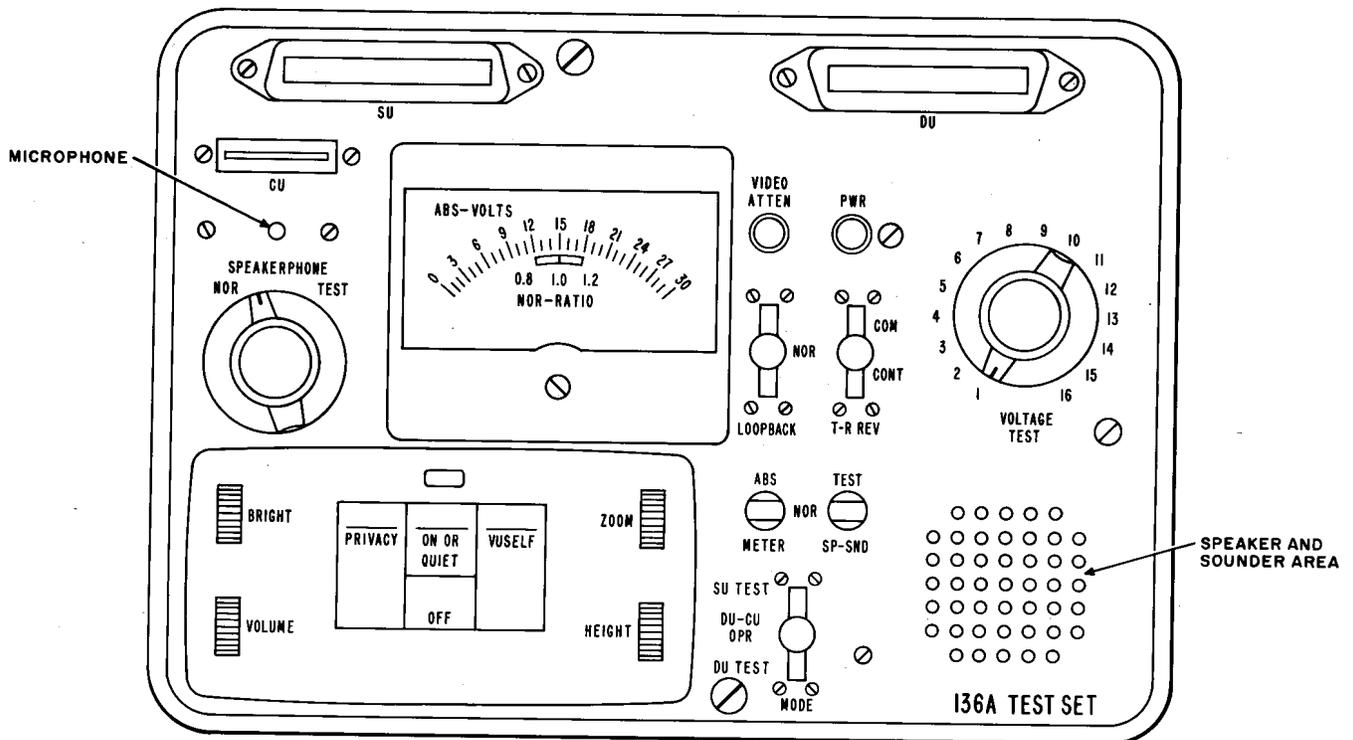
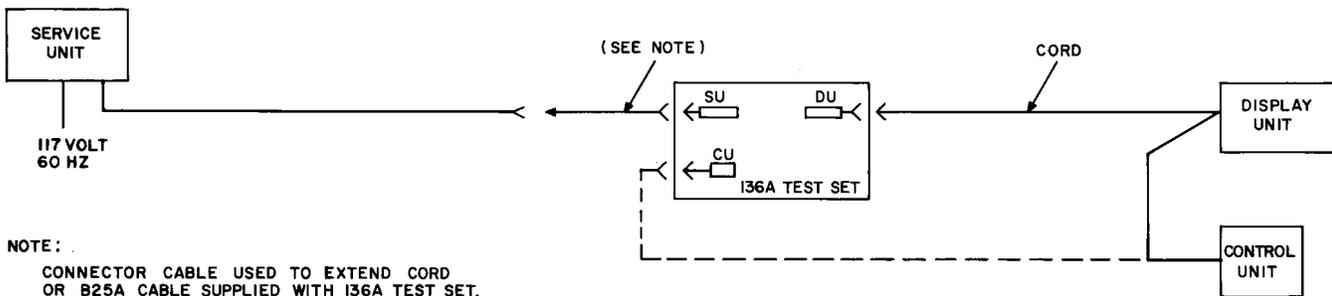

Fig. 1—136A Test Set
Fig. 3—Block Diagram of Test Set Connections
**1.03** The 136A test set (Fig. 1) provides for the following tests:
2.01 The following controls and indicators are provided on the 136A test set (Fig. 1)
**3.01** Connectors (DU and SU) on the test set (Fig. 1) permit placing the test set between the display unit, control unit, and service unit (Fig. 3). If a connector cable has been used to extend the interconnecting cord from the display unit to the service unit, open the connection and insert the test set. In installations where the display unit is plugged directly into the service unit, use the B25A cable supplied with the test set to connect to the service unit.